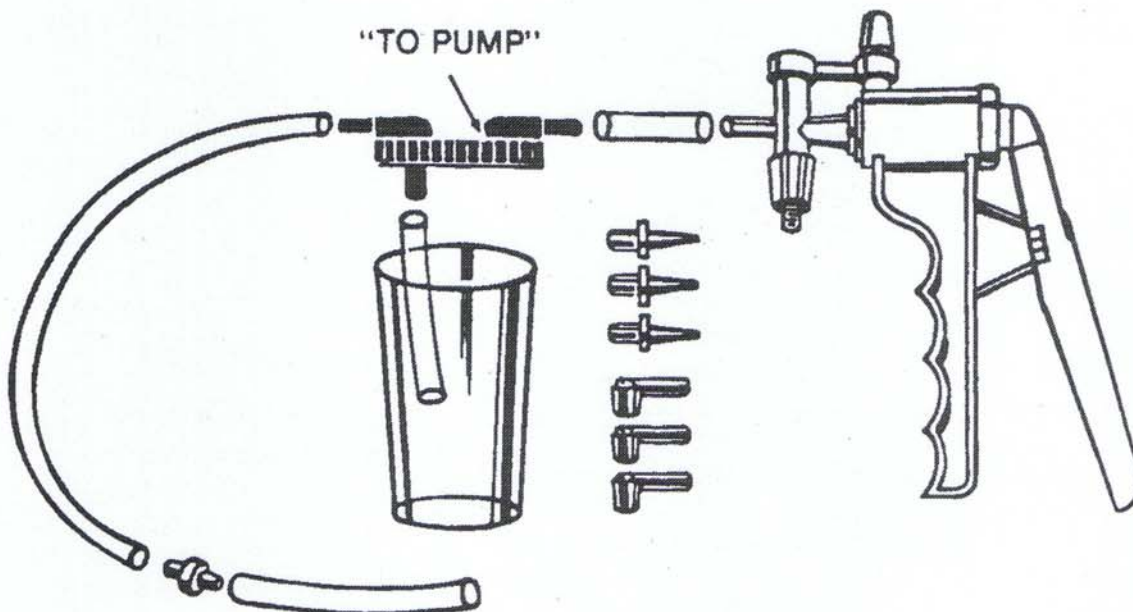

FIGURE 15: No. 6820 Brake Bleeding Kit
- 3) Slip 1-1/2" of tubing between the pump and the lid of reservoir jar at port marked "TO PUMP" (FIGURE 15).